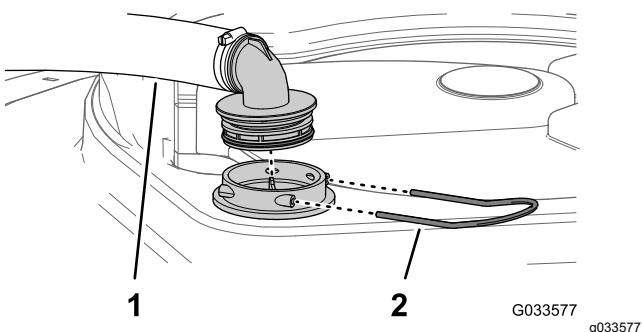

Figure 146
2. At the top of the sprayer tank, remove the retainer that secures the hose fitting attached to the large hose from the filter housing (Figure 146).
3. Remove the hose and hose fitting from the filter housing (Figure 146).